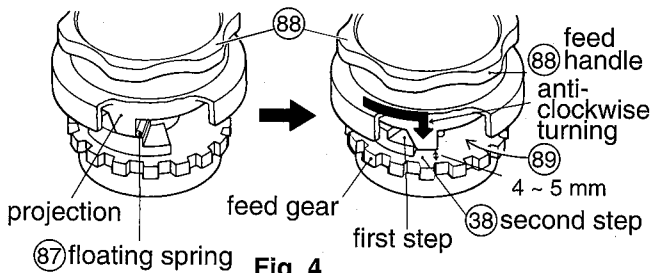

Fig. 4
4. Place the feed handle (88) onto the collar (86) (inserting the handle into the central bore) and contact one projection of the feed handle on its back side with the floating spring (87). Then turn the feed handle anti-clockwise and turn the handle a bit clockwise when the said projection falls through first and second steps of the feed gear (38) to fix the handle by hand.
5. Turn the feed handle a bit clockwise while holding it and fix it at the position where it floats by 4-5 mm (refer to Fig. 4).
6. Insert the spring (89) into the feed handle.
7. To connect the spring receiver (90) with its inner serration and the serration of the pinion shaft (19), insert the convex portions of the feed handle into the concave portions of the spring receiver while aiming at the position where they mate each other simultaneously.